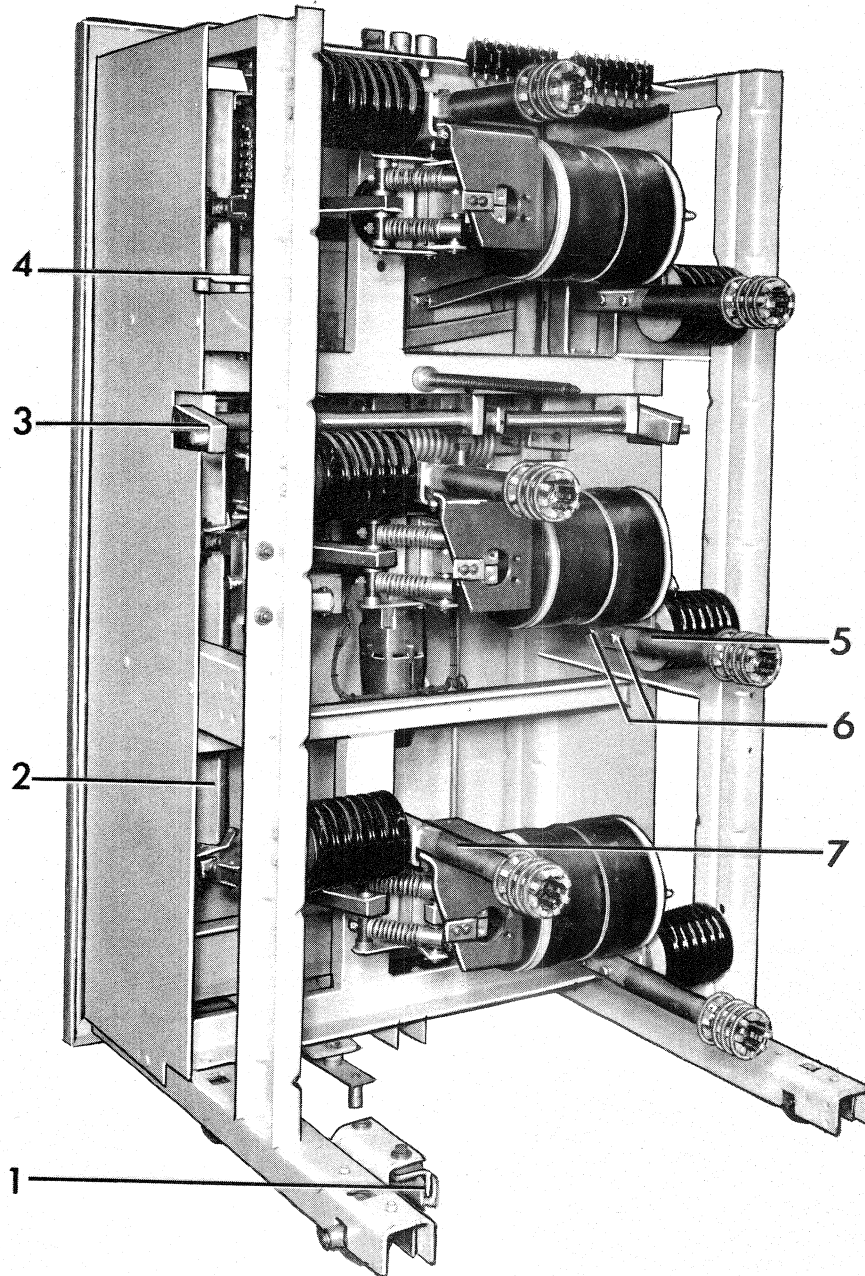

Figure 27. (8039299) Rear View of Breaker
To remove left hand stud (5) Fig. 27 remove two bolts (6). The right hand stud (12) Fig. 5 is held to the insulator with two bolts (15), and to the interrupter support (7) with two bolts (16).